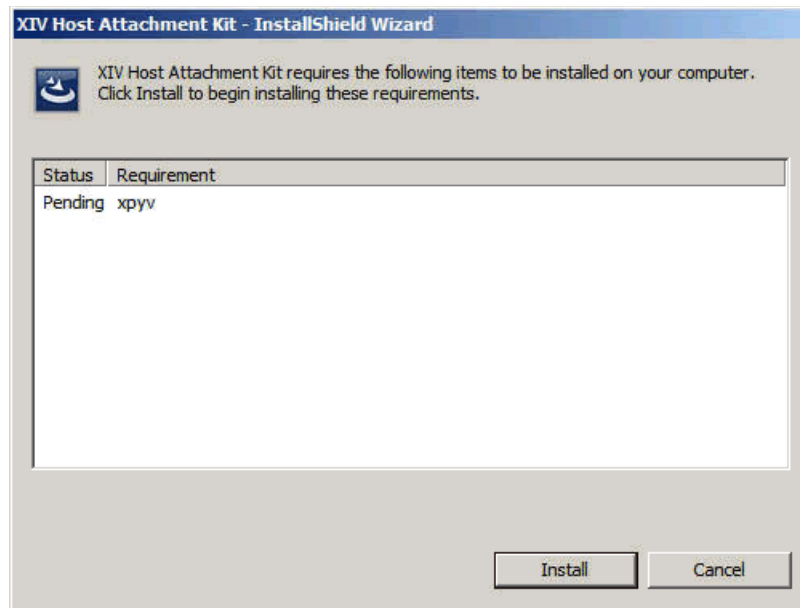

Figure 4-42 Windows HAK: Installation of xpyv
1. Run the **XIV_host_attach-1.5.3-windows-x64.exe** file. When the setup file is run, it first determines if the python engine (*xpyv*) is required. If required, it will be automatically installed when you click **Install** as shown in Figure 4-42. Proceed with the installation following the installation wizard instructions.
2. After xpyv is installed, the XIV HAK installation wizard is launched. Follow the installation wizard instructions and select the complete installation option. See Figure 4-42.